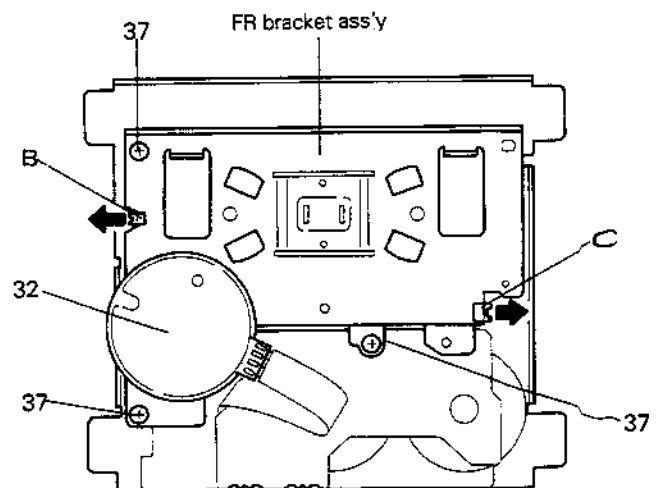

Fig. 7-23
5. Remove two screws (34) retaining the capstan motor (32) from the FR bracket assembly. (Fig. 7-23)